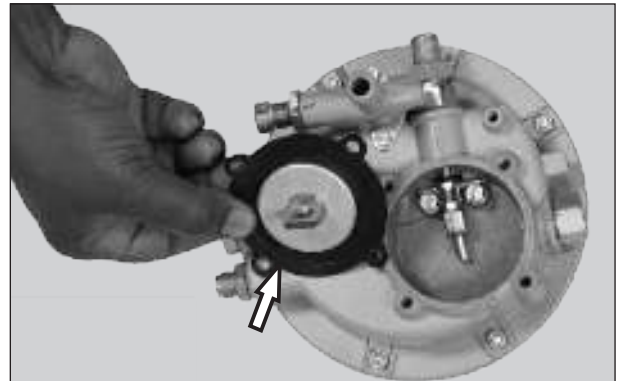

Fig. 8.28
- Take out the small diaphragm second stage from lever second stage diaphragm. (Fig. 8.28)